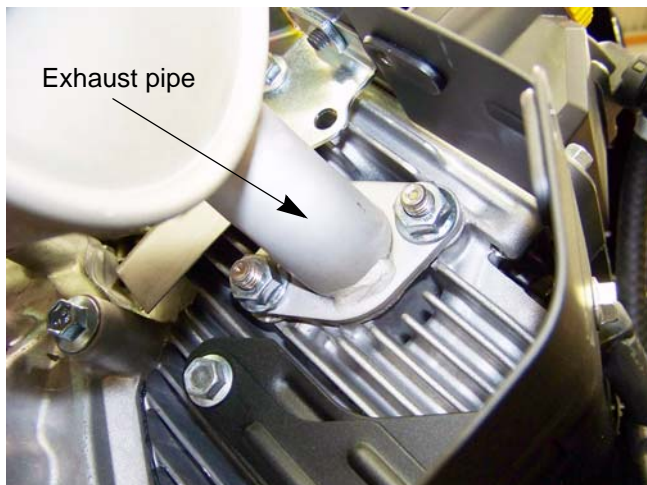

Figure 2.2
5. Remove the two nuts that hold each exhaust pipe to the cylinder head using a 1/2" wrench. See Figure 2.2.